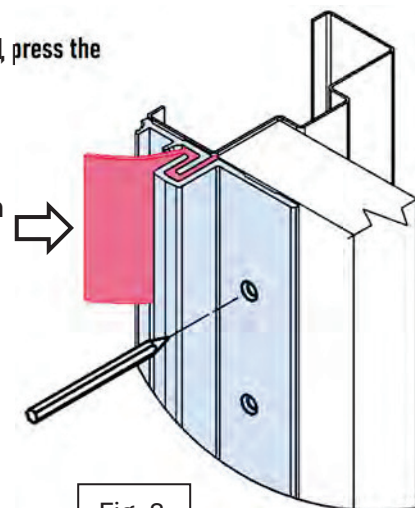

Fig. 3
- With the door closed, center the female door portion of the Latch Guard over the male. To help with centering, it is recommended to place the pink foam material, supplied as part of packaging material, over the male portion near top and bottom. Press the female section over the male, wedging the foam material between both parts to hold the door section in position for mounting, making sure to also center this section vertically and NOT get the foam trapped between the Latch Guard and door. (Fig. 3)